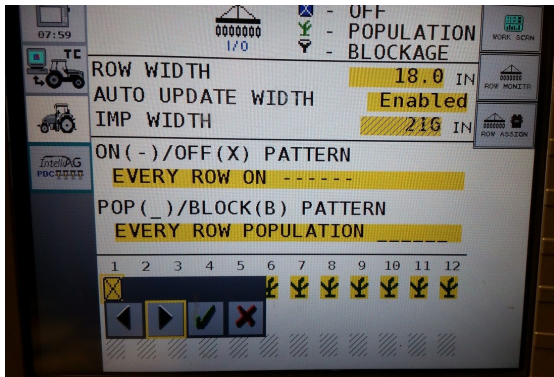

Figure 41
Step 16. At the bottom of screen, each row is identified with a number. Below the number is a box with a green plant. You can select the box under the number and turn individual rows off by selecting an X in the box. (Figure 41) This would shut the sensor off for that row. You would only need to do this if you have a sensor failure.